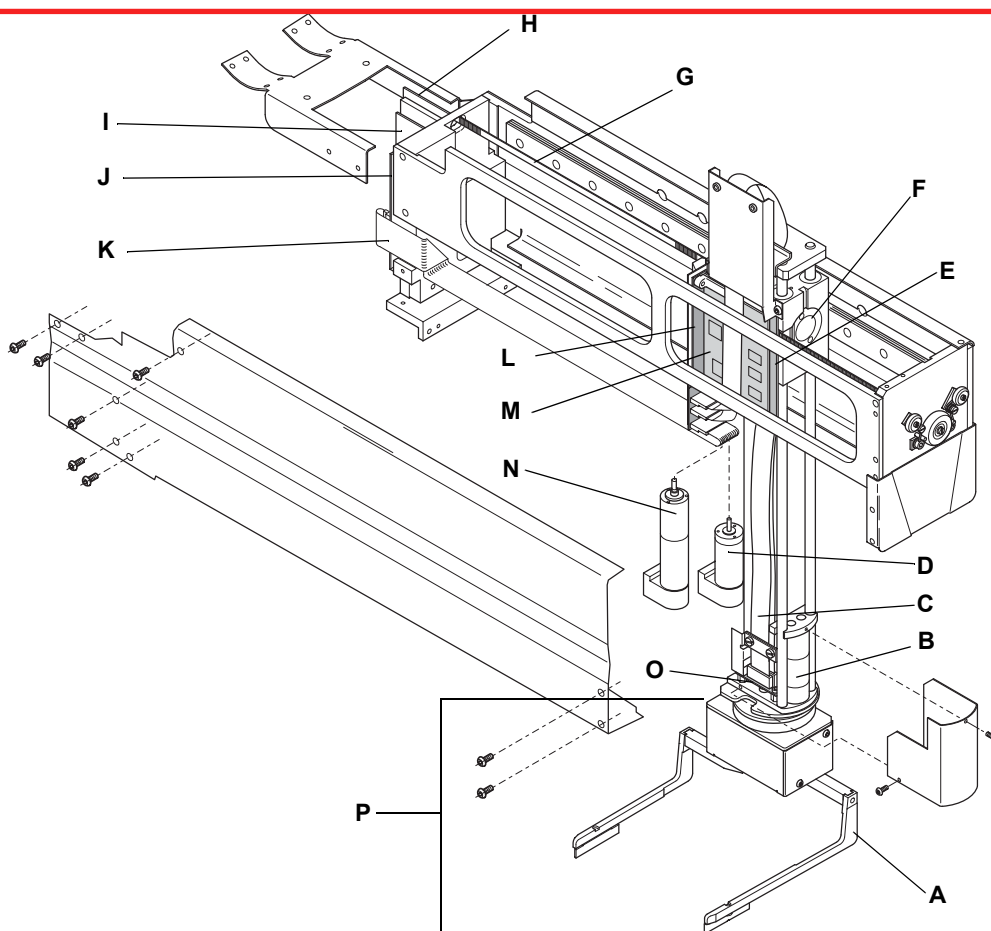

Fig. 8-58 RoMa standard parts
1) The assembly "gripper module" (P) includes the eccentric grippers (A) according to Fig. 8-58 "RoMa standard parts", Fig. 8-53 and not the centric grippers (A) shown here.